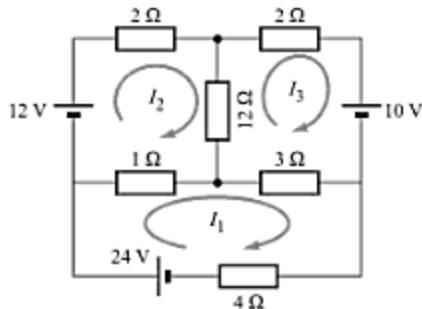

Fig. 3.73
14. Determine the current through the  $1\text{-}\Omega$  resistor in the circuit shown in Fig. 3.73, by using mesh analysis.